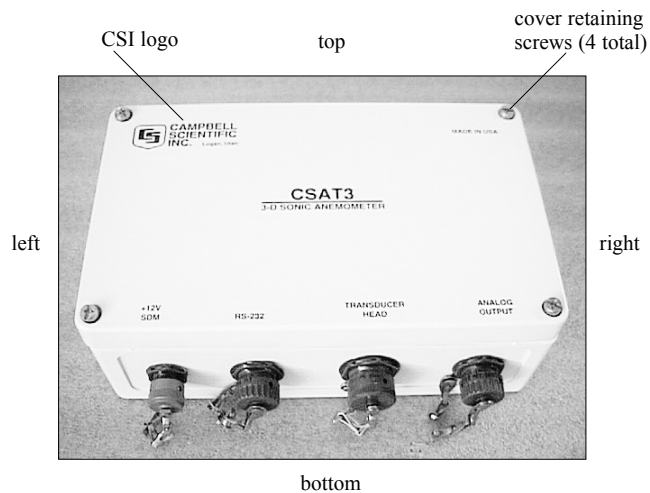

Figure 1. CSAT3 electronics box on a workbench.
2. Place the electronics box on a workbench in front of you as shown in figure 1. These instructions reference the locations of various components as top, bottom, left, and right. The Campbell Scientific logo is in the top left corner of the electronics box.
3. Remove the four electronics box cover retaining screws (figure 1). These are captive screws that are retained in the electronics box cover.